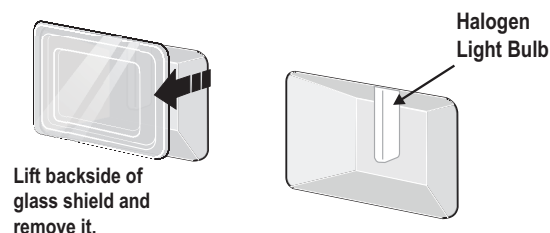

Figure 36: Light shield (L) and Halogen bulb (R)
2. To remove the glass shield, pull the back side of the shield toward the inside of the oven in a manner to lift it up from the oven side. The glass shield should come out easily by pushing a little toward front of the wall oven (See Figure 36).